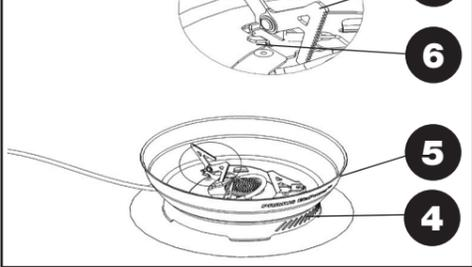

Fig 3
Med stegepande eller større kasseroller (Fig.3)
- Twist the pot supports (7) into place.
- With a frying pan or large pots (Fig. 3)**